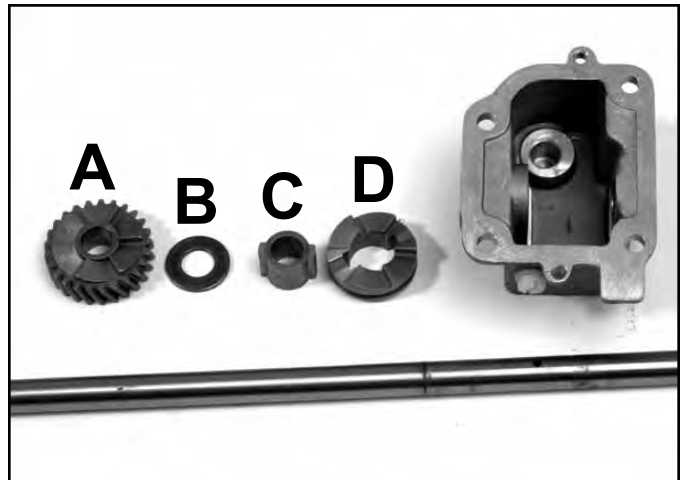

Fig 013 3428-0153
8. Remove the sleeve, clutch jaw, helical gear, and thrust washer (Fig. 013)